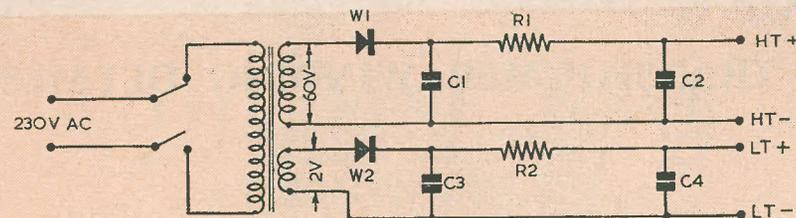
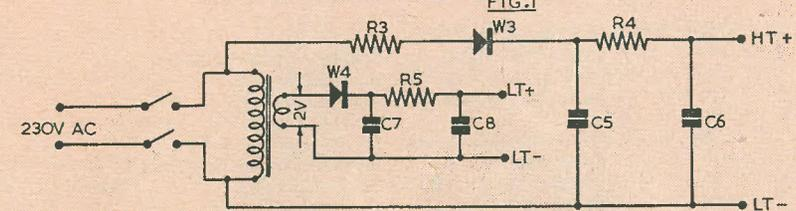
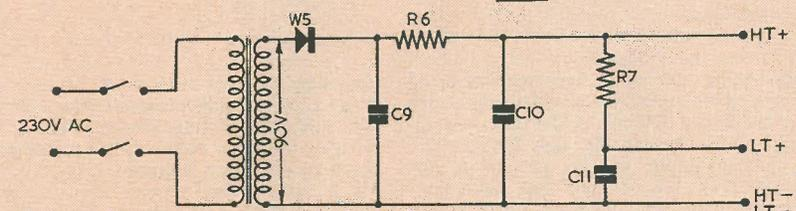
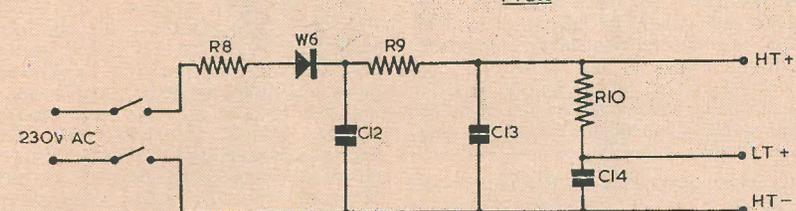

FIG. 1
FIG. 2
FIG. 3
FIG. 4
The first circuit shown in Fig. 1 uses a transformer with two separate windings for the HT and LT supplies. Fig. 2 shows a circuit using a transformer for the heater supply only, the required drop of voltage being obtained by means of resistance R3. These two circuits are suitable for sets operating with heater voltages of 1.4V. With sets having an LT supply of 7.5V it is, in general, more economical to bleed the HT supply. The circuits for such sets corresponding to those of Figs. 1 and 2 are shown in Figs. 3 and 4. It will be seen that the circuits of Figs. 1 and 3 use a trans-
former giving a complete electrical isolation of the set from the mains. The use of a transformer is better suited for tap changing, and has the advantage over a dropping resistor in that it dissipates only a negligible amount of power. It allows of a construction uncramped by the necessity of keeping hot components (resistors R8 and R10 in Fig. 4) away from other parts and providing adequate ventilation. The disadvantages of a transformer are its higher cost, size and weight. It should be noted that in Figs. 3 and 4 the LT and HT supplies have one common lead. Care should therefore be taken to connect the positive LT lead to the correct output terminal of the power pack. If it is found that the valves are not glowing, the LT leads from the set should merely be reversed.
To determine the best values of components, connect equivalent HT and LT resistances of the set across the corresponding output terminals of the chosen circuit. The smoothing and dropping resistors (R3, R4 and R5 in Fig. 2) can then be adjusted to give the rated voltages. The equivalent HT and LT resistances of the set can be obtained by dividing the two voltages by the corresponding currents taken. These currents can be obtained from the valve data, or measured directly by connecting the set to the battery. It can, however, be taken as a
Typical Components Values for Fig. 1
Typical Component Values for Fig. 2
Typical Components for Fig. 3
Typical Components for Fig. 4
- FIG. 1 Output 60V at 15mA and 2V at 250mA.
general guide that a battery set takes an HT current of approximately 10 mA and a heater current of 250 mA in the case of 1.4V LT sets and 50 mA in the case of 7.5V LT sets. For example, in the case of a 90V HT and 1.4V LT set the two equivalent resistances are 9000 ohms (1 watt) and 6 ohms ( $\frac{1}{2}$  watt). In this procedure, considerable care should be taken not to overrun the rectifiers and electrolytic condensers. Thus if condensers C1 and C2 in Fig. 1 are rated at 100V, the voltage across either of them must not exceed this value. Also the voltage across C1 must not exceed the rated rectifier output.
The power pack built by the author was that shown in Fig. 1, and the components quoted are those actually used. That circuit was chosen in preference to others due to the fact that the power pack was built for a regular traveller and had to be suitable for operation on 110V as well as 230V AC. A transformer supplying both HT and LT with a simple tap changer was considered to be a much simpler way of changing the operating voltage than a system of resistors with a complicated switching arrangement, especially as a heater transformer had in any case to be provided. The physical arrangement of components is shown in Fig. 5. Only overall dimensions are given as the particular detail arrangement will depend in each case on the components available.
On the right-hand side of Fig. 1 you will recognise a shape which has appeared many times before in this series. In almost any radio textbook it will crop up, or be referred to as the 'sine wave,' the author assuming that his readers know of what he is speaking.
The line AB in Fig. 1 is called a vector, and its length represents to some scale a current or voltage of, let's say, one volt. The base line on the right-hand side is cali-
will be reversed—from, say, positive to negative. Now, if the voltage from this coil were plotted vertically against angular movement on a graph, the resultant curve would be the same as the one in Fig. 1.
It is not merely a question of petty exactitude which gives this particular waveform such importance in scientific engineering. The reason is that the sine wave is the only waveform containing only one frequency. If our elementary coil of wire were rotated at 50 revs/sec, the frequency of the alternating current output would be 50 c/s because one complete wave would be produced by every revolution. This explains the other markings on the base line of Fig. 1. The degrees of rotation have been replaced by the time the vector has taken to rotate to any particular point, assuming that the rotational speed of the vector is constant. Now it can be shown that any waveform which departs from sine wave or sinusoidal shape contains harmonics. These are frequencies which are multiples of the main or fundamental frequency. For example, middle C in the musical scale has a frequency of 256 c/s and its second harmonic is  $2 \times 256 = 512$  c/s (an octave above middle C), and its third